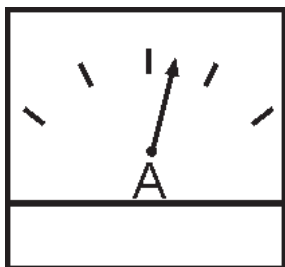

Figure 52. Ammeter (Load)
- Observe the generator’s ammeter (Figure 52) and verify it reads the anticipated amount of current with respect to the load. The ammeter will only display a current reading if the load is in use.